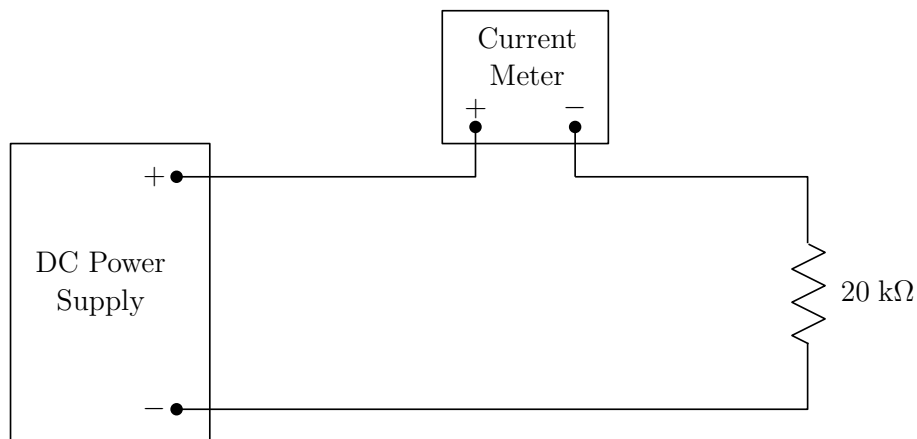

Figure 2.2: Circuit for verifying Ohm's law.
1. Setup the circuit shown in Figure 2.2. Make sure to test all resistors on the DMM first to ensure they are the correct resistances. Vary the voltage from 0 V to 20 V in increments of your choice and measure the corresponding current at each step. To use your digital multi-meter (DMM) as a current meter, you must put the *red* probe into the *yellow* mA jack and select the appropriate current (A) range using the dial of the DMM. You may have to use (appropriately colored) alligator connectors to connect your DMM probes to your circuit board.